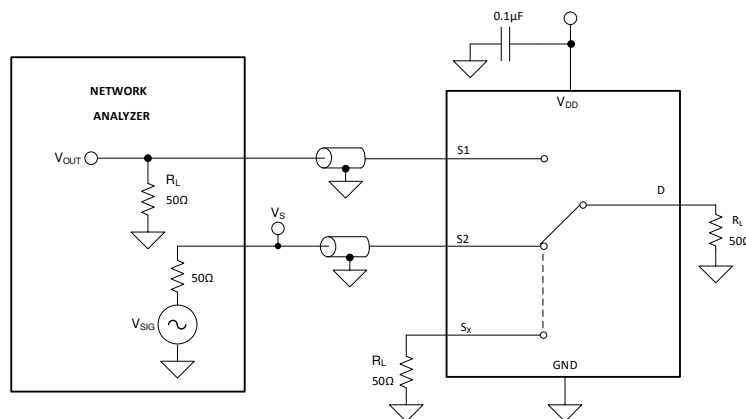

图 26. Crosstalk Measurement Setup
Crosstalk is defined as the ratio of the signal at the drain pin (D) of a different channel, when a signal is applied at the source pin (Sx) of an on-channel. 图 26 shows the setup used to measure, and the equation used to calculate crosstalk.